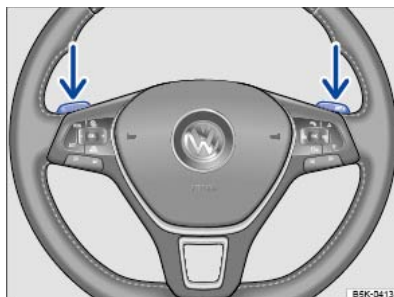

Fig. 125 Steering wheel with paddles for Tiptronic.
- Pull the right paddle ⇒ *Fig. 125* towards the steering wheel to change up a gear.